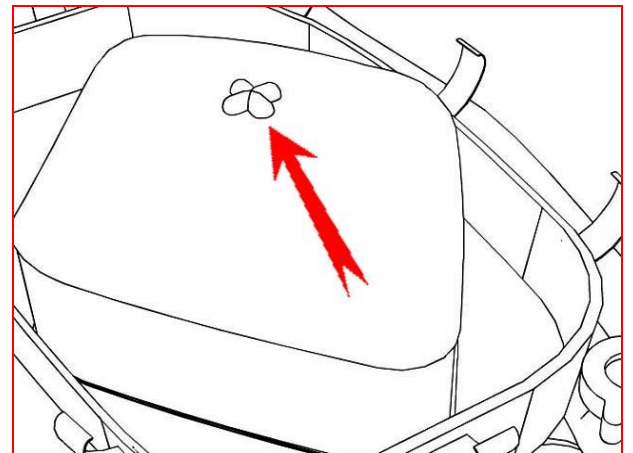

Figure 3
4. Remove plastic nut, air filter cover and filter. (see figure 3)